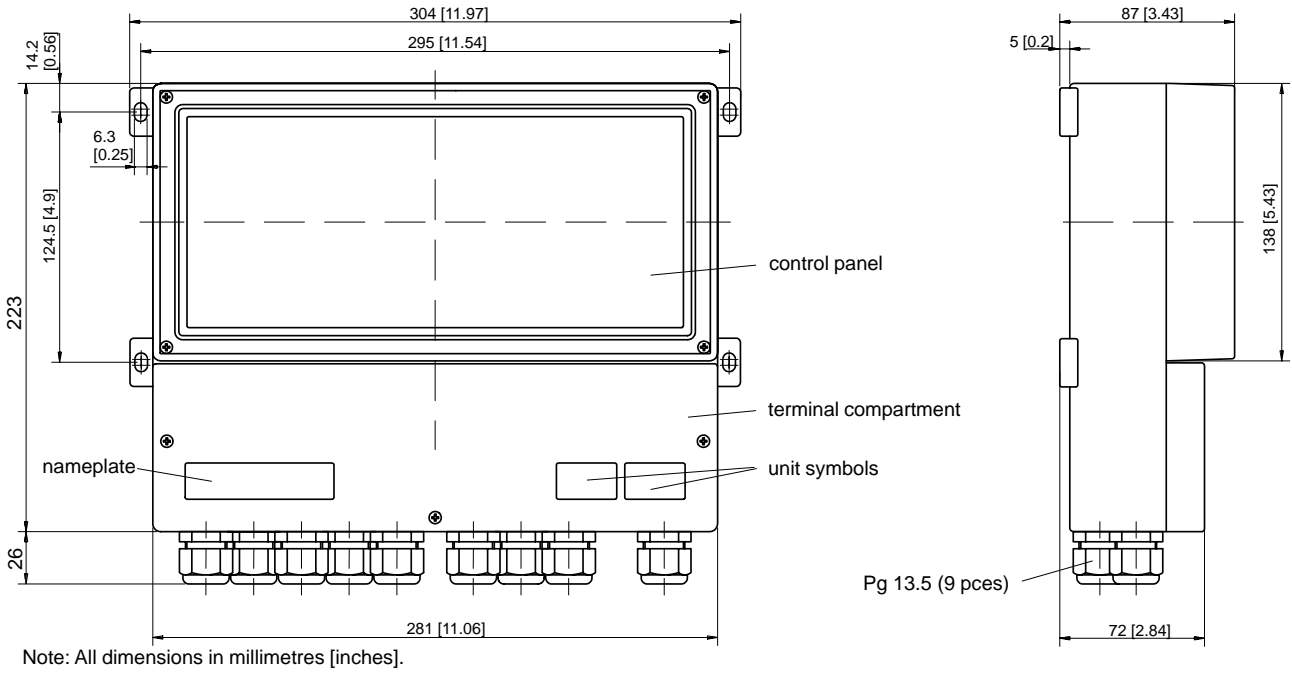

Fig. 1-1 Dimension Drawing pH Transmitter 2800X
- The weatherproof enclosure allows direct wall mounting. For dimension drawing, see Fig. 1-1.